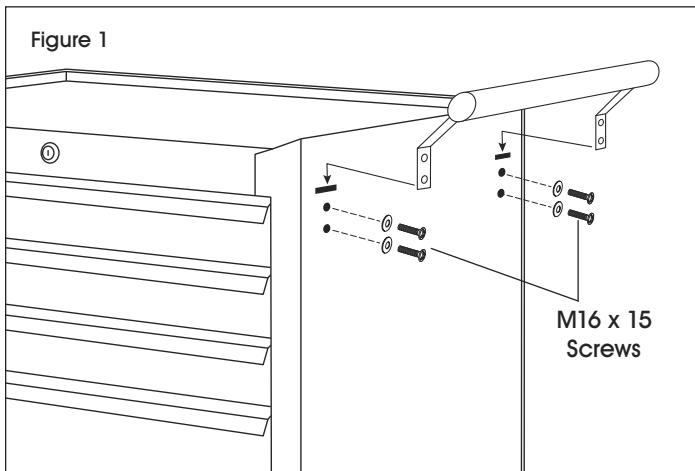

Figure 1
1. Insert handle into slots on side of tool cabinet. (See Figure 1)